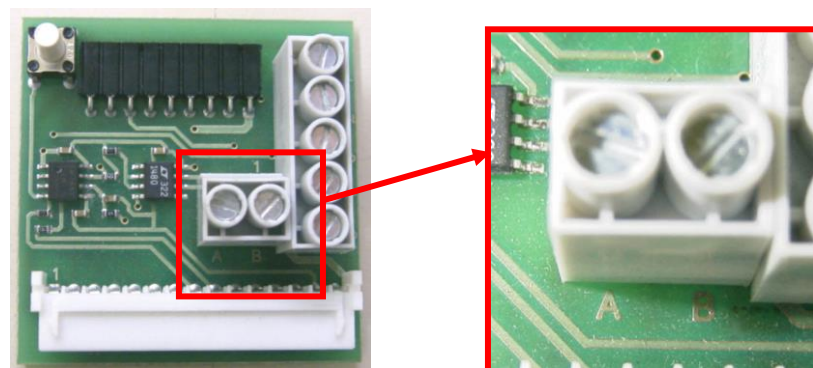

Figure 5
3. Connect (with a cable) the display to the previous circuit, always respecting the position of the cables indicated in the connector A and B of the display's circuit (**figure 5**)